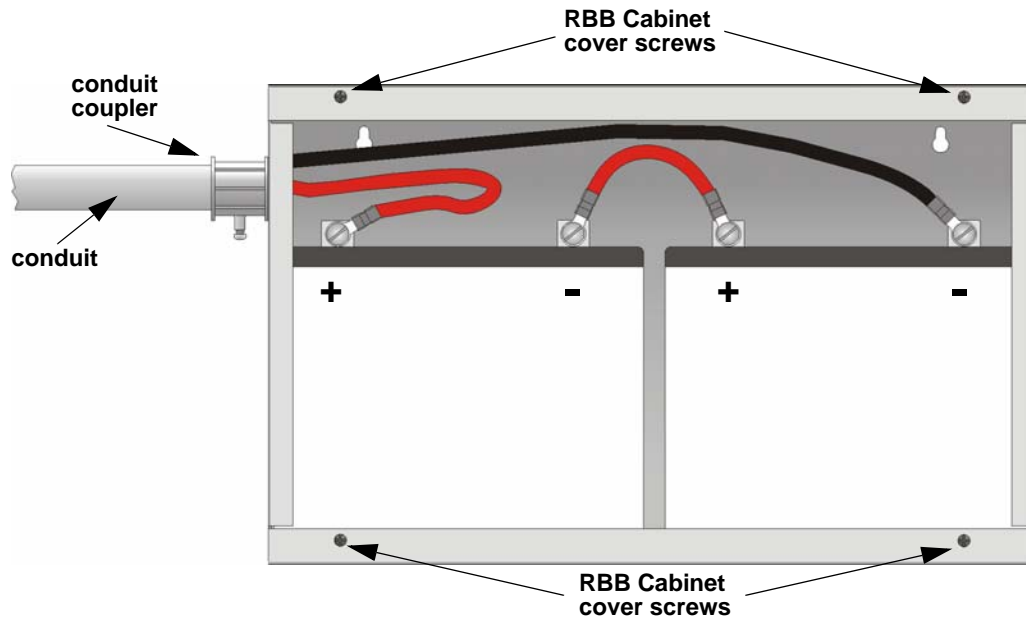

Figure 4.9 Battery Connections in the RBB Cabinet
3. Run extended battery cable from control panel cabinet through conduit to RBB cabinet. See Figure 4.9.
NOTE: Figure 4.9 is an example of how the wire connections can be routed. However, any other cabinet knock-outs (on either the main control panel or the RBB cabinet), that are not previously being used may be utilized to connect conduit between the two cabinets.
4. Connect battery leads to the backup battery terminals. See Figure 4.9. Observe the proper polarity to prevent damage to the batteries or the control panel.
5. Insert the RBB cover screws into the cover mounting holes (see Figure 4.9). Screw the cover screw 3/4 of the way into the cover mounting hole.